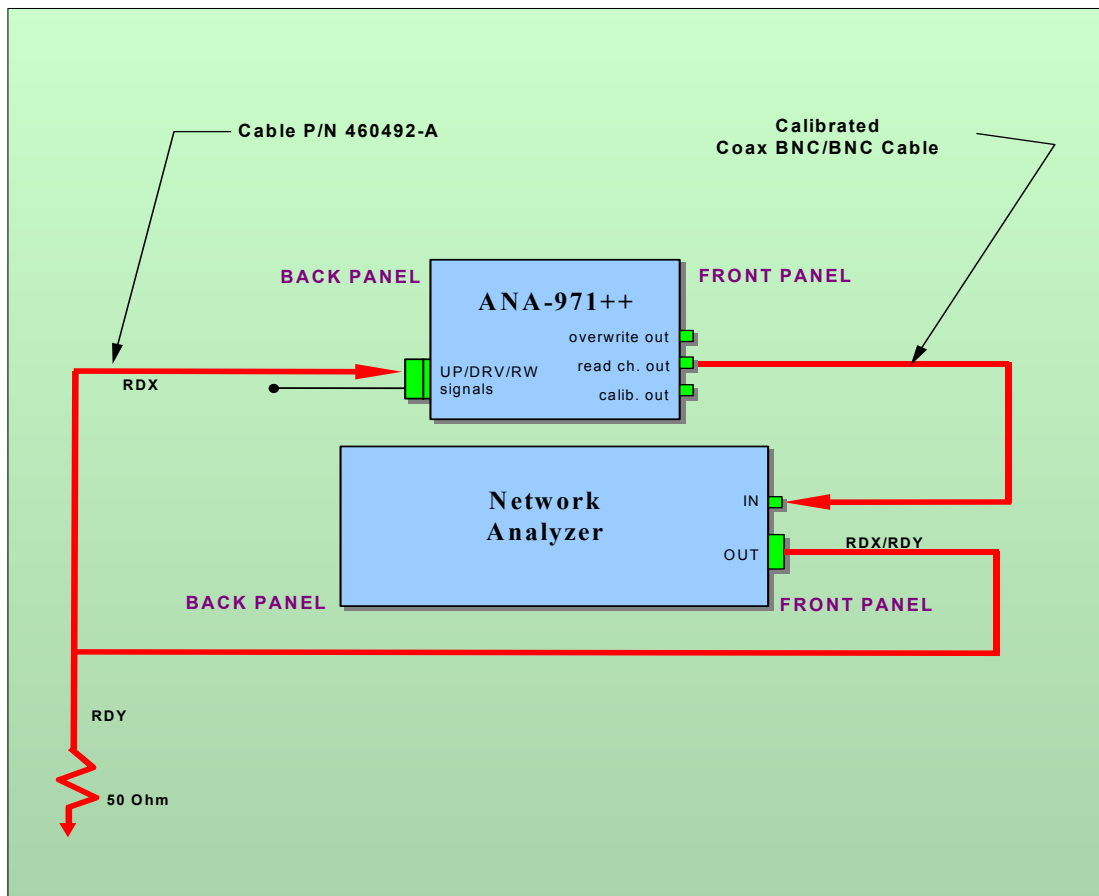

Figure 22 ANA-971++ & Network Analyzer Connection Diagram
2. Connect the output of the network analyzer to the ANA-971++ via the analog RDX/RDY IN data cable (Guzik Part Number 462490-A). To do this, disconnect it from the UP-7, terminate one of two differential inputs to 50 Ohms, and connect another one to the network analyzer (See Figure 22.).
2. Connect the output of the network analyzer to the ANA-971++ via the analog RDX/RDY IN data cable. To do this, disconnect it from the UP-7, terminate one of two differential inputs to 50 Ohms and connect another one to the network analyzer. (See Figure 22.)